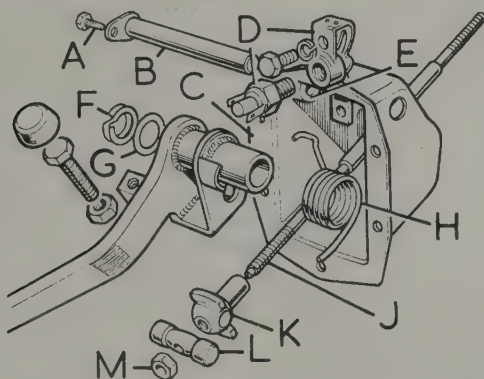

Fig. 9.57. Brake pedal components (3500 S models)
- 1 The procedure is much the same as described in the preceding Section although the individual components differ (Fig. 9.57).